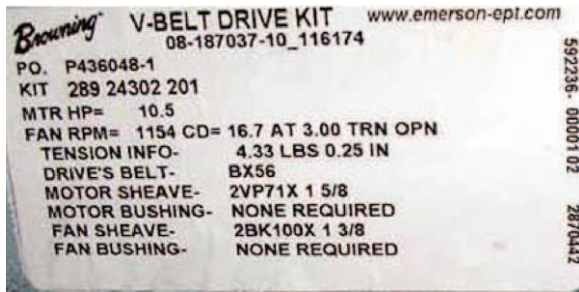

FIGURE 34 - TYPICAL DRIVE KIT DATA TAG
The actual data required by design of each fan assembly is listed on the tag affixed to the fan housing near the belts as shown in *Figure 34 on page 51*.
6. Compare the force you have applied with the value given on the drive kit data tag as shown in *Figure 34* on page 51.